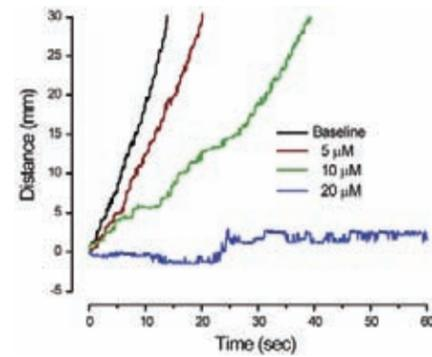

Figure 1
- Versatile import/export capability, as the raw data can be imported into any spreadsheet program for graphing and analysis (figure 1)